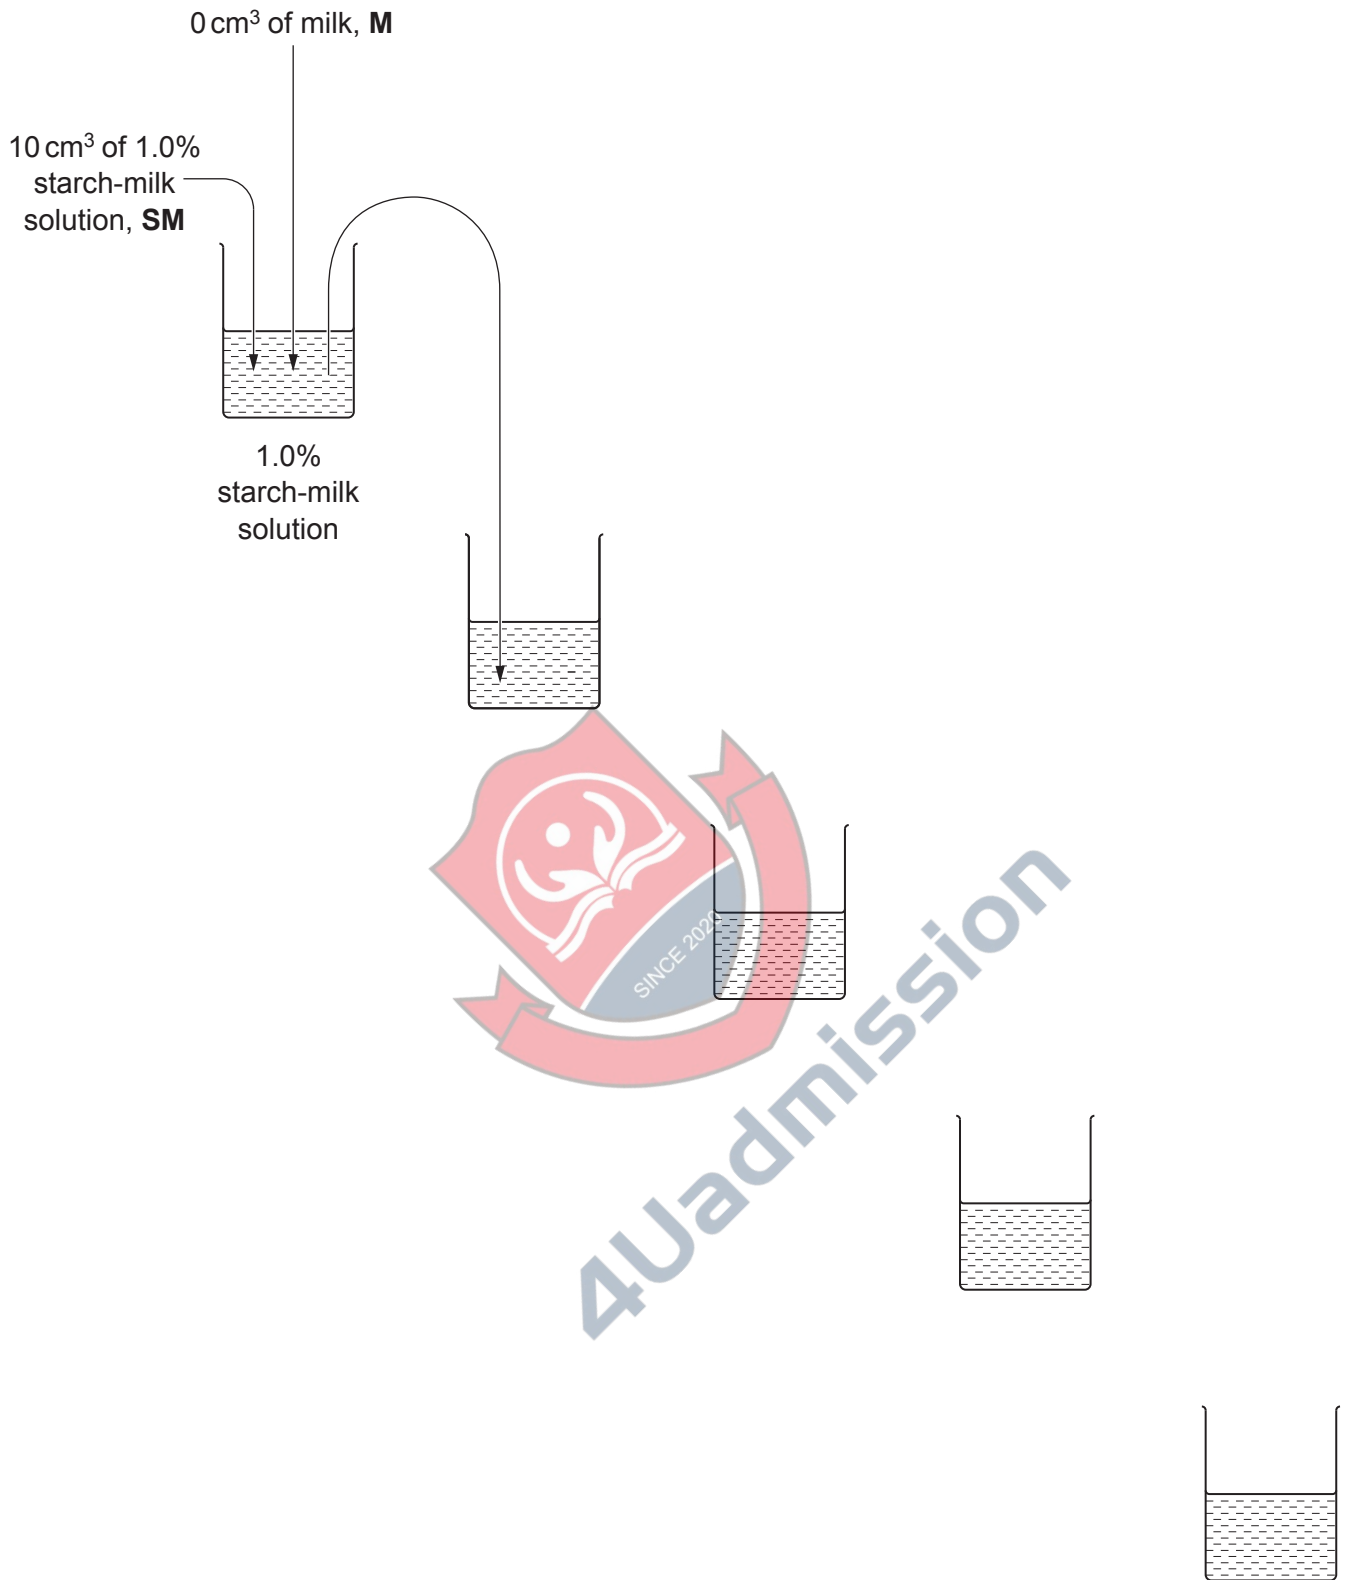

Fig. 1.1
- (a) (i) Complete Fig. 1.1 to show how you will prepare your serial dilution.
step 1 Prepare the concentrations of starch-milk solution as shown in Fig. 1.1.